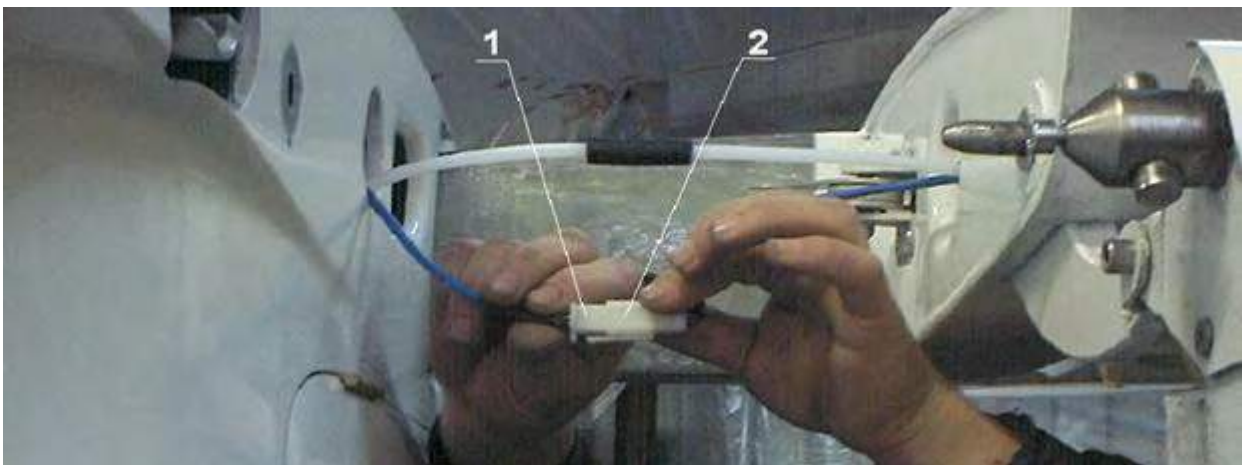

Fig.4
- 3) Connect all fuselage-to-wing wiring, e.g. connect the position and strobe lights socket and plug (1 and 2) (Fig. 4).